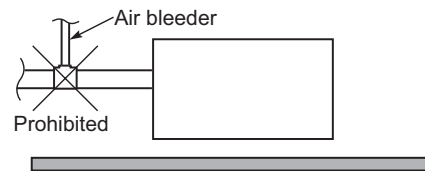

Fig. 2-84
- Do not install an air bleeder as this may cause water to spray from the drain pipe outlet. (Fig. 2-84)